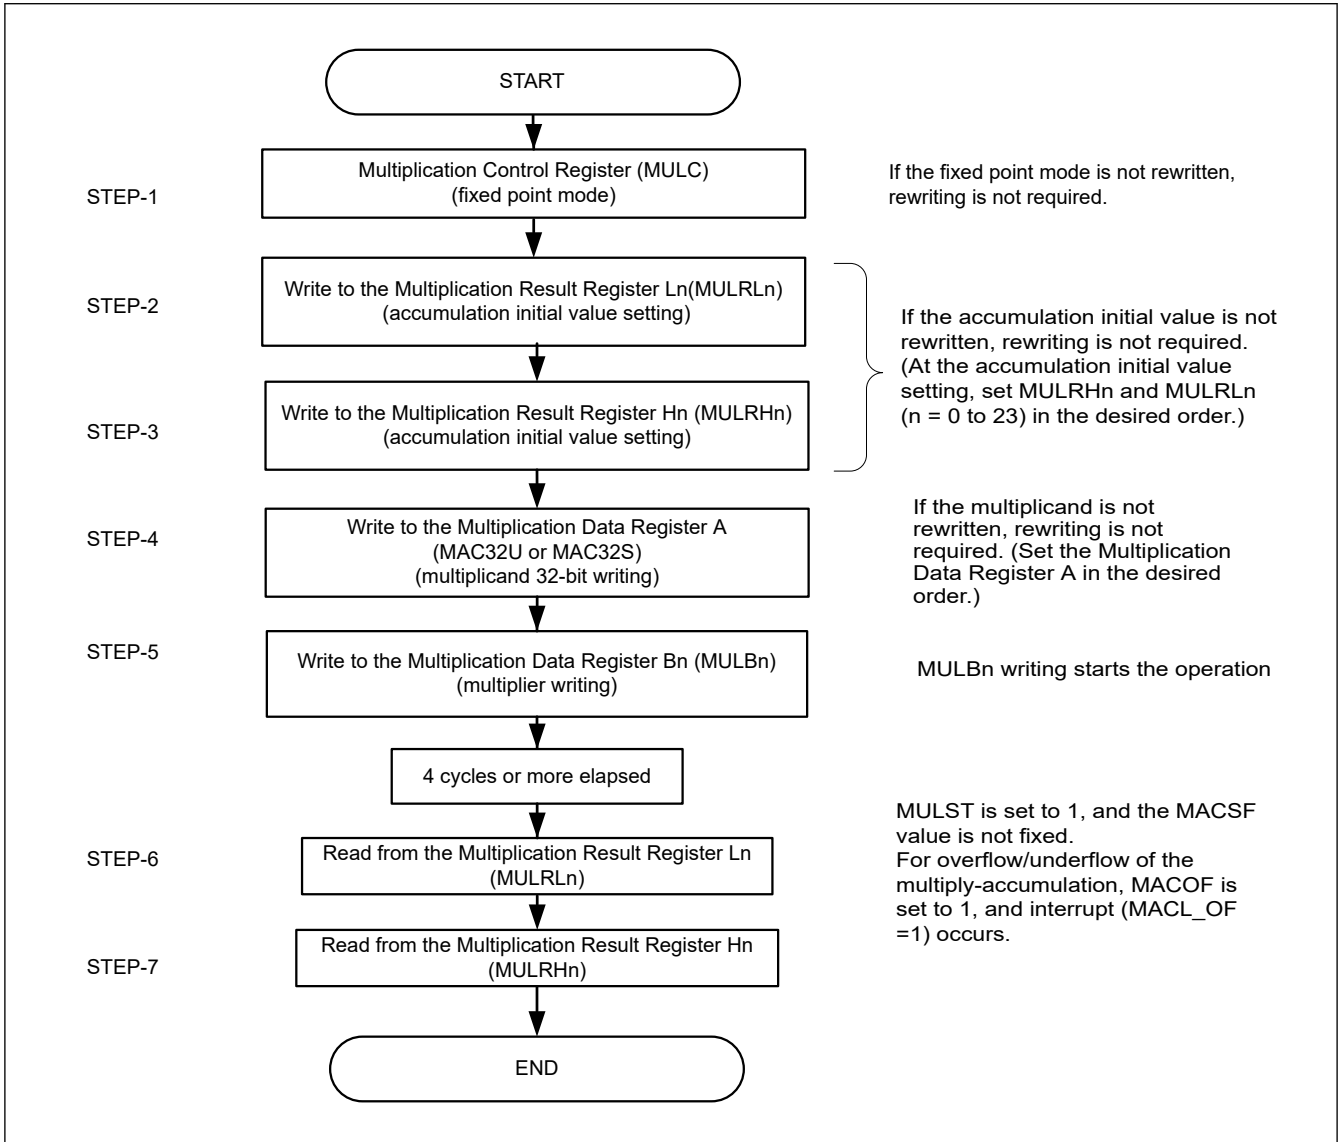

Figure 37.6 MACL flow for multiply-accumulation operation
- STEP-1 (as shown in Figure 37.6): MULC writing (enabling/disabling fixed point mode)
STEP-6 (as shown in Figure 37.6): Multiplication Result Register Ln (MULRLn) (n = 0 to 23) can be read out.
1. When switching the fixed point mode, execute STEP-1 (as shown in Figure 37.6). For other cases, proceed to [STEP-2].
Figure 37.6 shows the flow when executing a multiply-accumulation operation.